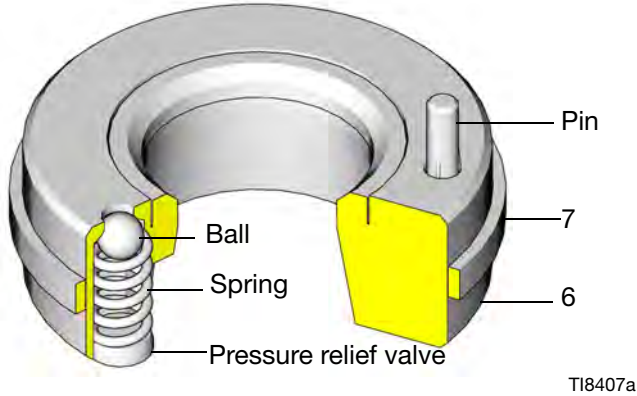

FIG. 2. Inlet Seat with Pressure Relief Valve
2. Use the **text cast into the inlet fluid housing (15)** as a guide to install the relief valve inlet seat (6H) The pin (See FIG. 2) on the seat must point into the inlet fluid housing (15). This pin limits the positioning of the seat (6H), ensuring that the vent hole is not blocked by part of the housing.
3. Install the inlet seat (33H) without a relief valve in the right side of the inlet fluid housing (15).